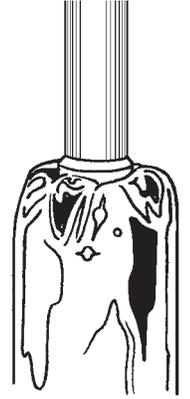

Figure 12
2. After the glue sets, slip the paper body tube onto the plastic insert (Figure 12).